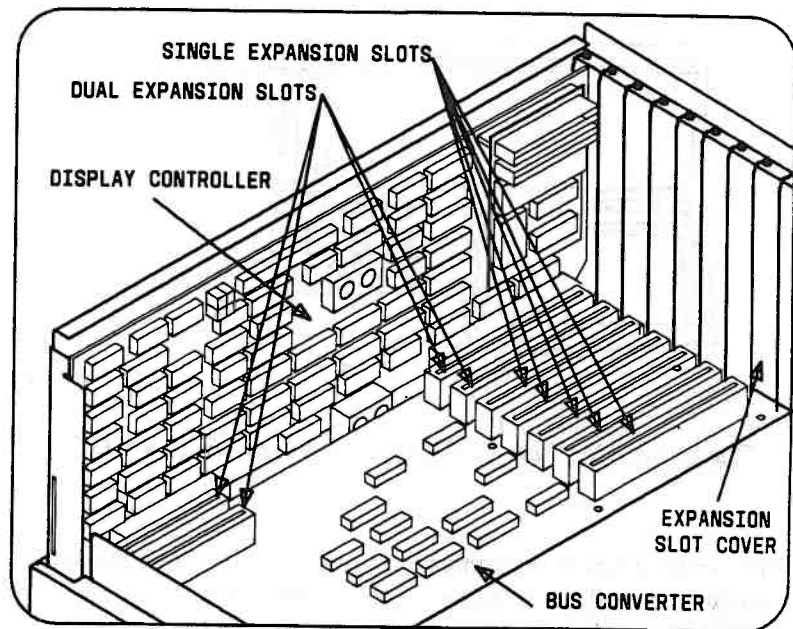

Figure 3-45. Dual Expansion Slots in the System Module
9. Using a screwdriver, remove the Expansion Slot Cover of an unused dual expansion slot (Figure 3-45) near the VDC.